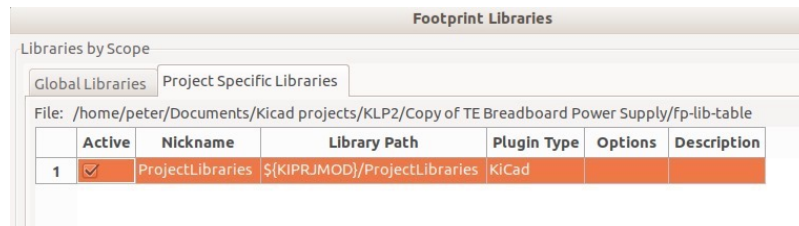

Figure 29.3: The new footprint library is specific to this project.
8. Navigate your file system and click on the folder that contains the new library. Click Ok to select it. In Figure 29.3 you can see the imported library in my 'Project Specific Libraries' tab.